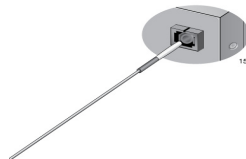

Figure 54. Cleaning a Recessed Ferrule
1. Insert the swab into the adapter as shown in Figure 54 and rub the ferrule tip with the swab.